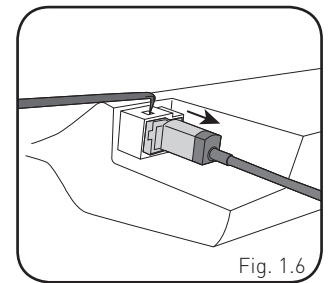

Fig. 1.6
- Using a pick tool release the clips at the top and bottom to release the USB, remove USB and disconnect the harness. (Fig. 1.6)